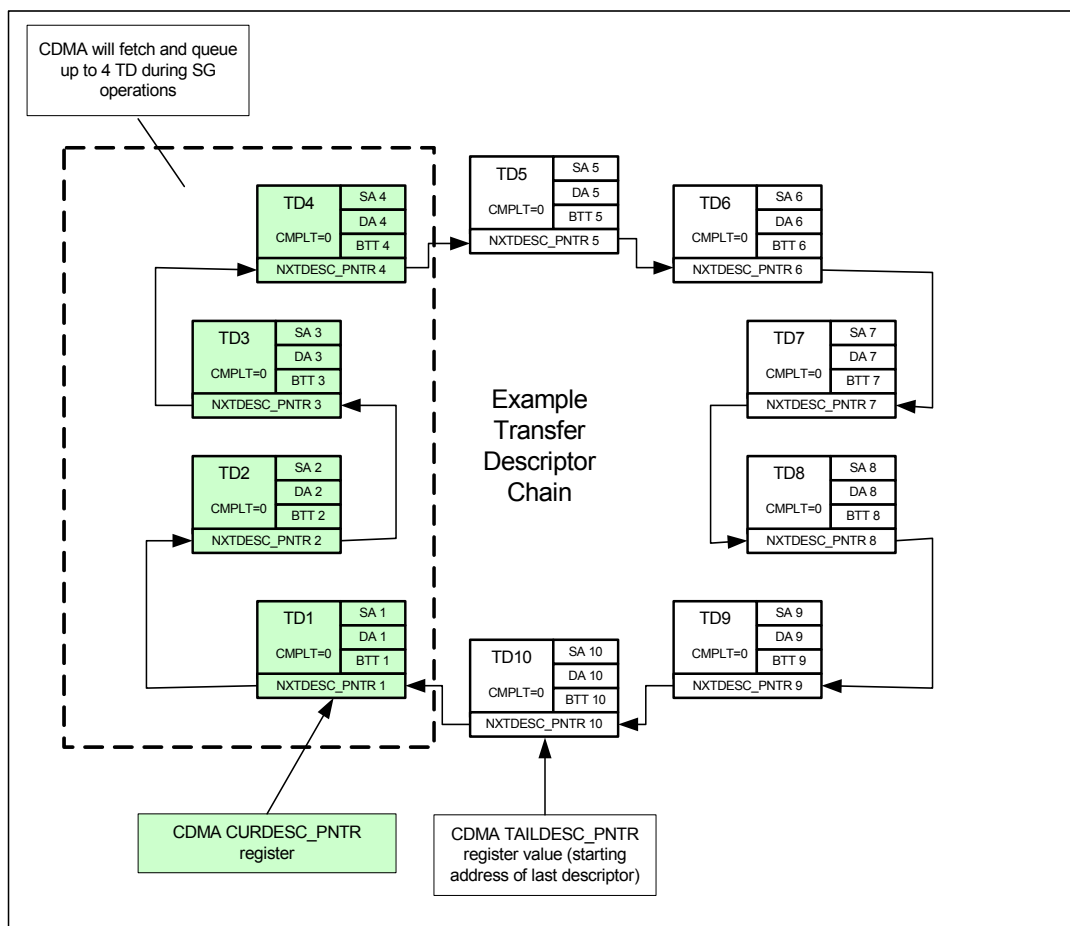

Figure 17: Transfer Descriptor Execution Startup
- The AXI CDMA starts SG operations when the TAILDESC_PNTR register is written by the software application. The value written should be the starting address of the last TD in the chain to be executed. The SG operation begins by the CDMA fetching the first transfer descriptor at the address loaded into the CDMA CURDESC_PNTR register. See Figure 17.